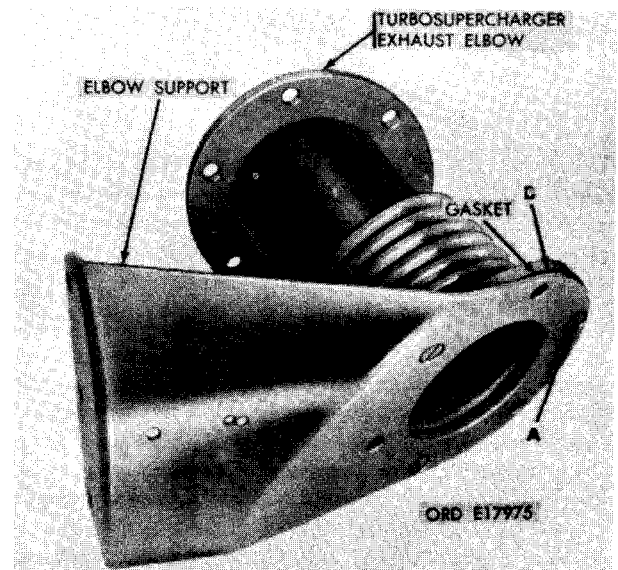

FIGURE 48. DISCONNECTING OR CONNECTING TURBOSUPERCHARGER EXHAUST ELBOW AND/OR ELBOW SUPPORT.
Note. Do not disassemble exhaust elbow and support (fig. 48) unless replacement of gasket is necessary.
- (5) Figure 48. (A) Remove three 1/4- inch self- locking nuts and 1/4 x 3/4 flat head machine screws securing turbosupercharger exhaust elbow to elbow support. (B) Remove and discard turbosupercharger exhaust elbow outer gasket.